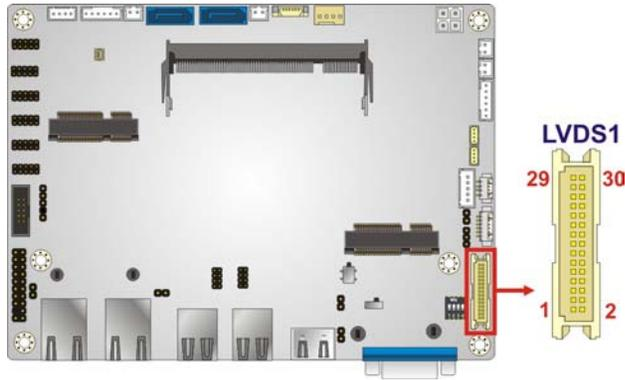

Figure 3-15: LVDS Connector Location
- CN Location: See **Figure 3-15**